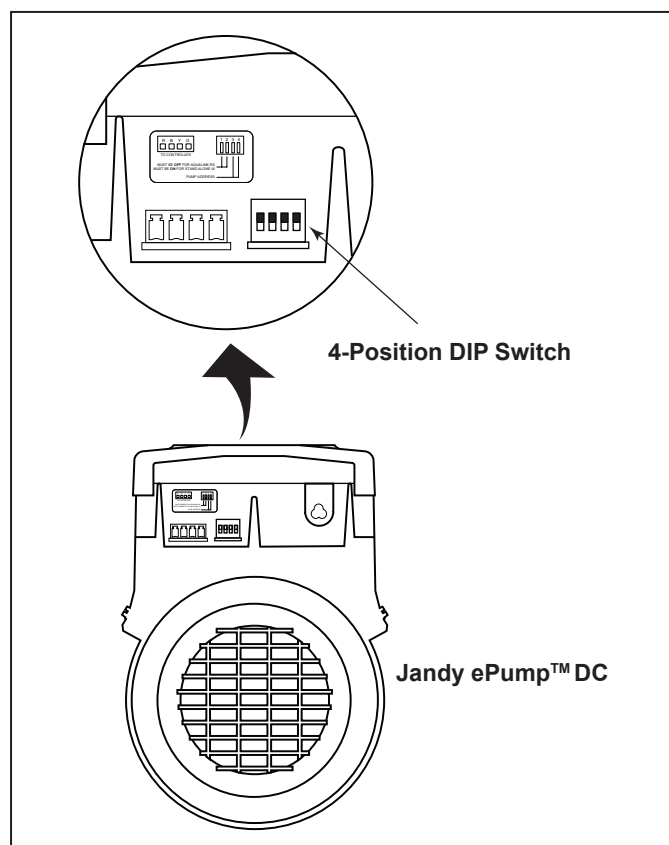

Figure 9. Zodiac® ePump™ and VS Pump Dip Switch
**NOTE** When connecting to the AquaLink RS, plug the JVAs into the Intake, Return and Cleaner JVA sockets. Slide DIP Switch S1-6 to the ON position. See wiring diagram in Section 3, Figure 9.